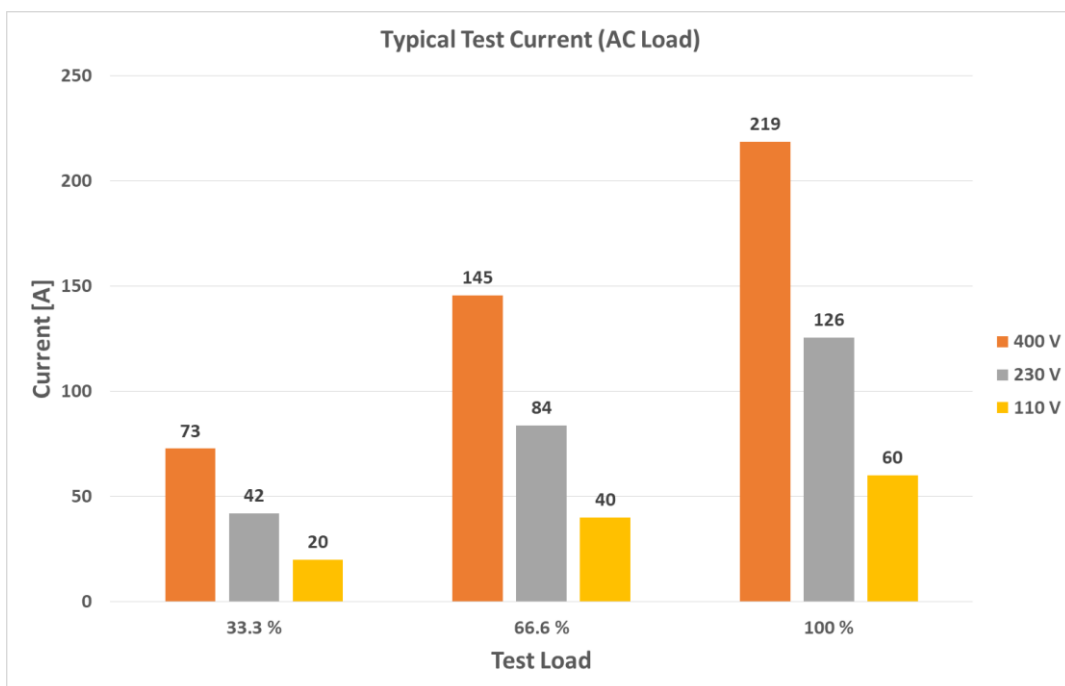

Figure 9.1: Typical test currents (AC Load) in relation to nominal voltage and test load
- Maximum test current see chapter **9.4 Test Current, Figure 9.1**
Maximum test current see chapter **9.4 Test Current**, Figure 9.1
Maximum test current see chapter **9.4 Test Current, Figure 9.1**